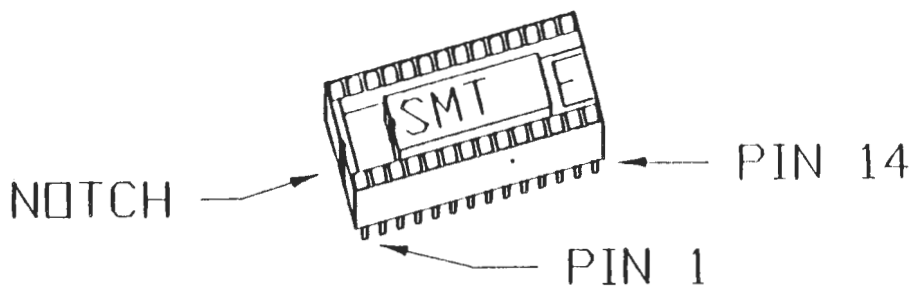

Figure 10
5. Look at the No-Slot Clock. At one end of the clock you will notice an indentation. This is the pin 1 end of the clock. At the other end you will notice a big E. This is the pin 14 end. DO NOT MIX UP PIN 1 WITH PIN 14. See figure 10.